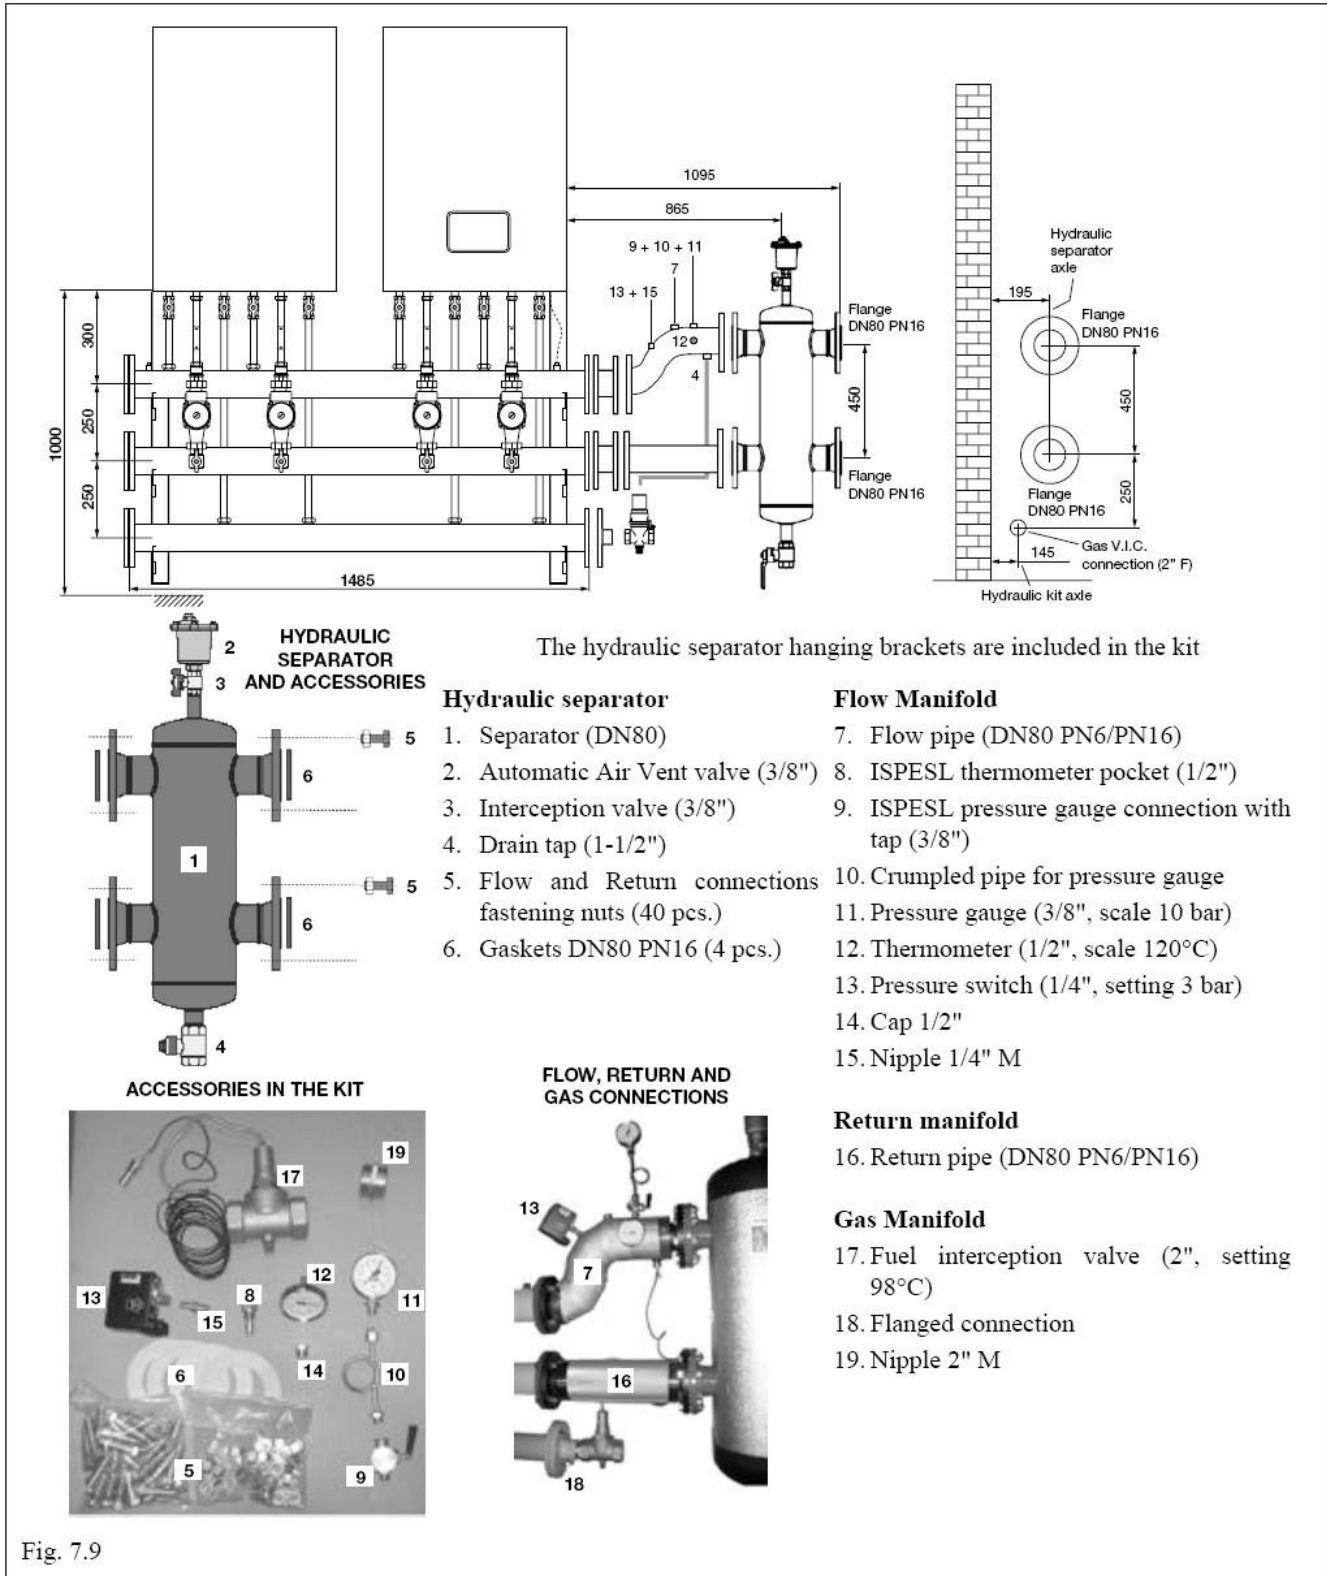

Fig. 7.9
**Use of gas shutoff valve in 400kW < cascade installations - Original (ISPESL) (Figure 7.9)**
- All connections are given in Figure 7.9.
**Hydraulic mixer (Figure 7.9)**
**Water flow manifold (Figure 7.9)**
**Water return line (Figure 7.9)**